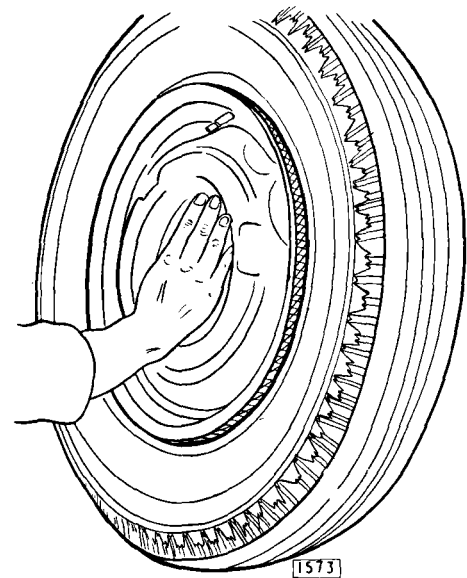

Fig. 21. Method of sealing bead without tourniquet.
2. Lean tyre and wheel against a wall at an angle as shown in Fig. 21. (See note below.)
3. Press wheel centre so that nearest bead obtains a hold on the rim seat. (Fig. 21.)
Note : Some rims have a wider seat on one side than on the other. When fitting to a rim with equal seats the first part of the operation (Fig. 21) should be carried out with the valve at the front. On other rims, the first operation should be carried out with the valve towards the wall and the wider rim seat to the front.